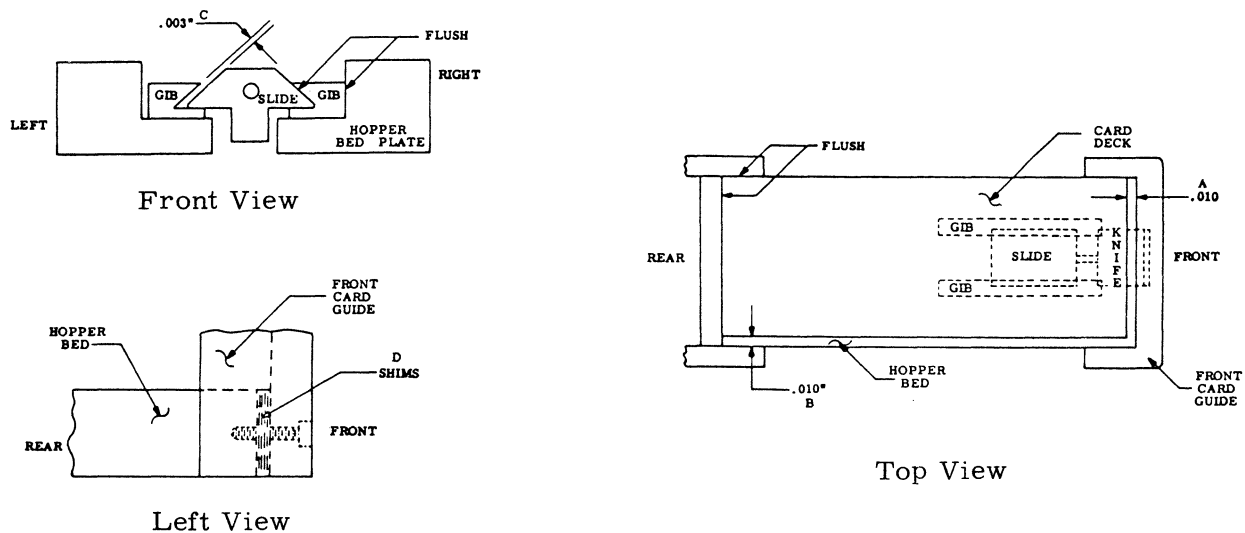

Figure 4-10. Hopper, Gib, and Slide
6. HOPPER, GIB, AND SLIDE (figure 4-10) CAUTION: Incorrect setting of these adjustments will result in misfeeds or nicked cards.